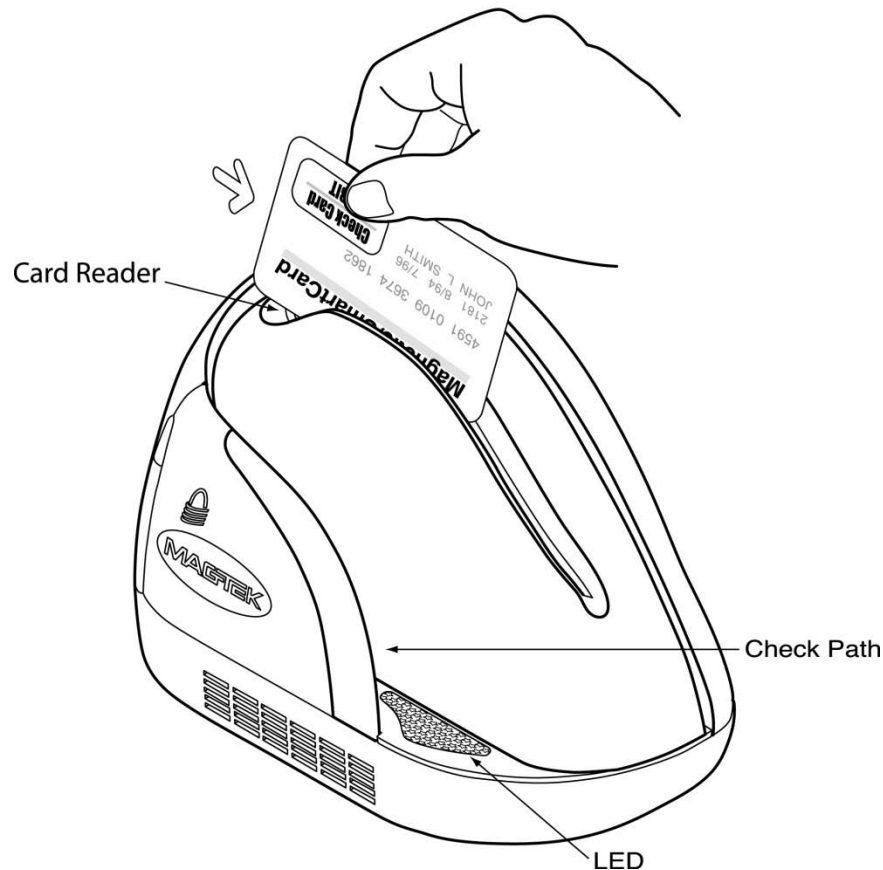

Figure 2-1. MDX Component Identification
The installation of the MDX Check Reader is described below. Figure 2-1 shows the unit with a MagneSafe card reader.
4. The LED indicator on the MDX Reader should turn on to a steady green. The LED indicator on the MDX is located on the slot where the check is first inserted for reading (see figure 2.1). If the LED does not turn green refer to the LED indication section.